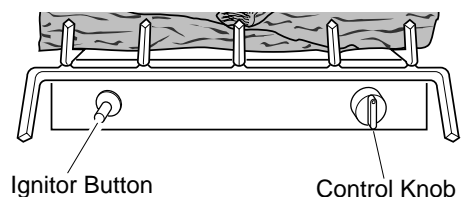

Figure 28 - Control Knob and Ignitor Button Location
4. Wait five (5) minutes to clear out any gas. Then smell for gas, including near the floor. If you smell gas, STOP! Follow "B" in the safety information above. If you don't smell gas, go to the next step.
5. Press in control knob and turn counterclockwise  to the PILOT position. Keep control knob pressed in for five (5) seconds (see Figure 28, page 15).